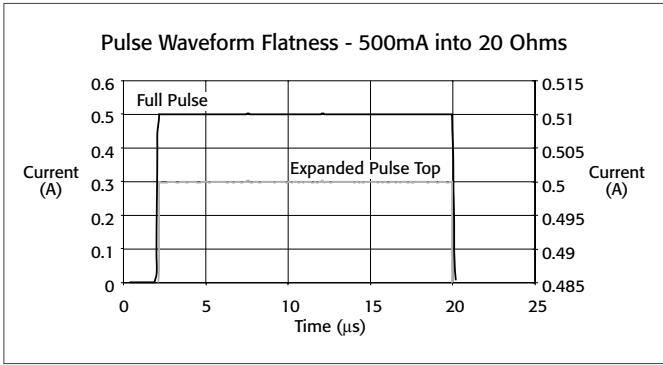
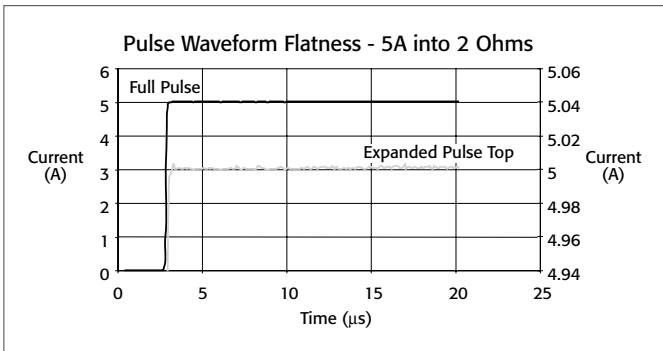

FIGURE 1
FIGURE 2
**FIGURE 1.** This schematic reflects the current testing practices of major laser diode manufacturers. Note that the use of discrete test components increases the integration and programming effort, while severely limiting the flexibility of the test system.
The mainframe and remote test head architecture of the Model 2520 is designed to enhance pulsed measurement accuracy, even at the sub-microsecond level. The remote test head ensures the measurement circuitry is located near the DUT, mounted on the fixture, minimizing cable effects. As the schematic in **Figure 1** shows, traditional semi-custom systems typically employed in the past require significant integration. The architecture of the Model 2520 (**Figure 2**) offers a far more compact and ready-to-use solution.
**FIGURE 2.** The Model 2520 integrates synchronization, source, and measure capabilities in a single half-rack instrument (with remote test head) to provide maximum flexibility and test throughput.
7. **Figures 1 and 2** are typical pulse outputs into resistive loads.